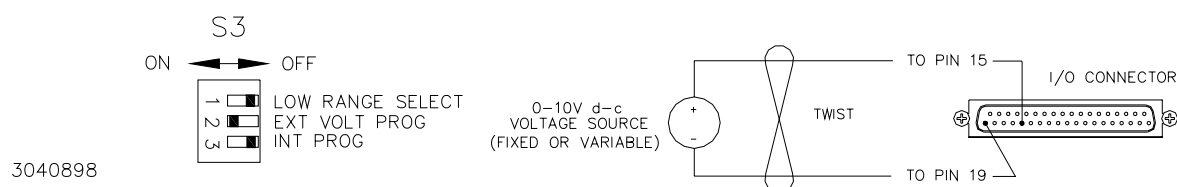

FIGURE 3-3. EXTERNAL VOLTAGE PROGRAMMING OF CURRENT LIMIT
- b) **External Voltage Programming:** When enabled via S3-2, this mode provides for current limit adjustment via an external voltage source (0-10V) connected between pins 15 and 19 (IPROG, -S) of the I/O connector (see Figure 3-3). This technique is useful when implementing digital control of the power supply current limit via a D/A converter; Kepco's SN/SNR 488 programmers are ideally suited to these requirements.